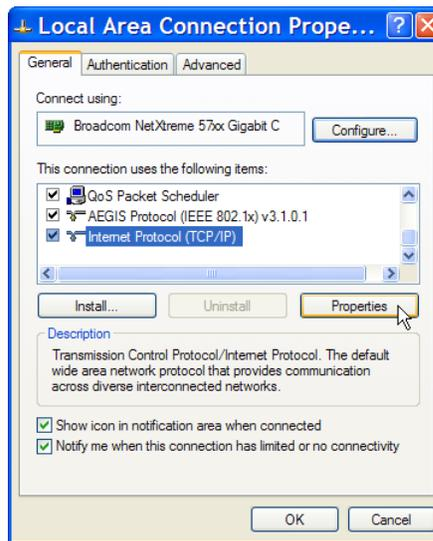

Figure 6. Accessing Internet Protocol (TCP/IP) Properties
- (5) In the Local Area Connection Properties Item selection window, scroll down and left-click once on **Internet Protocol (TCP/IP)** to select (highlight) it then click on the **Properties** button (Figure 6).